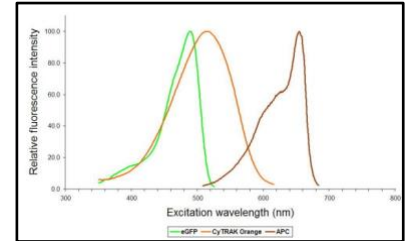

Fig. 1. Absorbance profile of CyTRAK orange™ compared to eGFP and APC
**DETECTING CyTRAK Orange™ SIGNALS:** (see figs. 1 & 2)